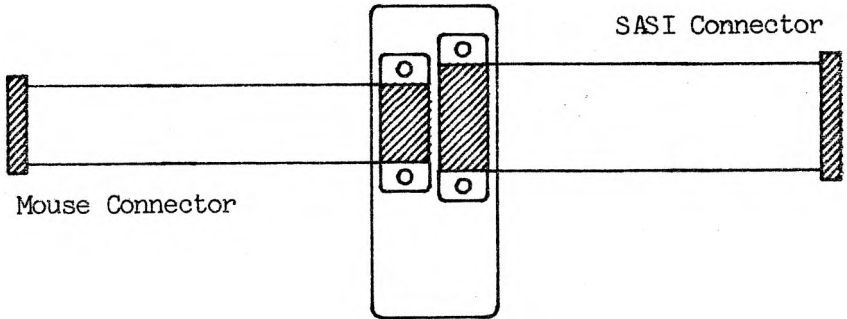

Figure 4-1 The Dual Connector Cable
- 2) Locate the dual cable connector (see figure 4-1) supplied with your external disk system. It is used for connecting the Escort board to the first external drive.